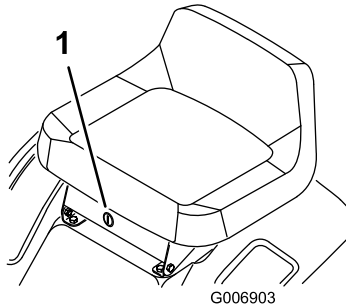

Figure 12
If you need to use the blade control (PTO) while backing up, turn off the interlock feature using the KeyChoice switch located near the seat bracket (Figure 12).
2. Insert the KeyChoice key into the switch (Figure 12).